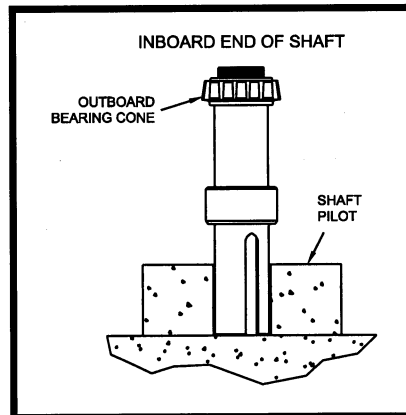

Figure 6.3.6.1 Placing Outboard Bearing Cone onto Shaft
4. Place the outboard bearing cone squarely on the inboard end of the shaft with the smaller diameter of the bearing facing inboard. Reference Figure 6.3.6.1.